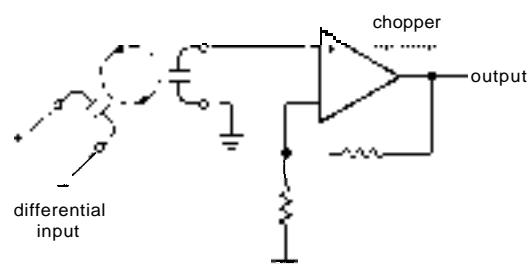

Figure 7.23. ICL7605 flying-capacitor differential amplifier with high CMRR.
**Instrumentation amplifier.** Another "chopper" technique in use is the so-called "commutating auto-zeroing" (or CAZ) amplifier, originated by Intersil. In this technique, typified by the ICL7605 flying-capacitor instrumentation amplifier, MOSFET switches enable you to store the differential input signal across a capacitor, then amplify it with a single-ended chopper-stabilized amplifier (Fig. 7.23). You get charge-coupled spikes at the clock rate, just as with the standard auto-zeroing amplifier, which puts the same sort of limitations on the CAZ technique as we saw earlier. Although we raved about CAZ amplifiers in our first edition ("...stands a good chance of revolutionizing precision op-amp and instrumentation amplifier technology"), they've been finessed by the better auto-zeroing technique in which the signal always passes through a single amplifier.